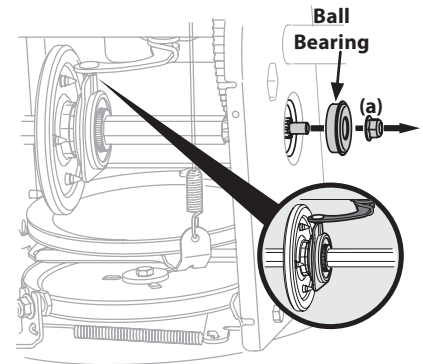

Figure 4-25
5. Carefully remove hex nut (a) which secures hex shaft to equipment frame and lightly tap the shaft's end to dislodge ball bearing from right side of frame. See Figure 4-25.
NOTE: Make sure shift lever pin is in place in bearing housing. See Figure 4-25 inset.